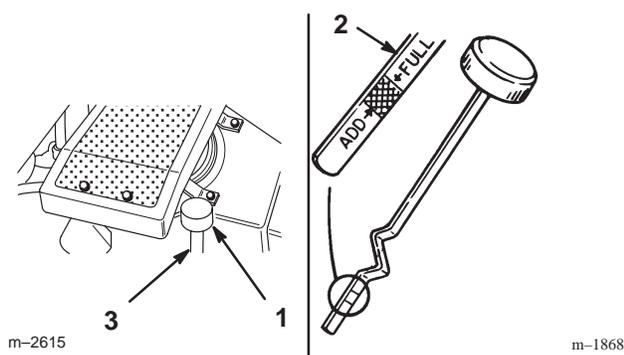

Figure 17
2. Clean around the oil dipstick (Fig. 17) so dirt cannot fall into the filler hole and damage the engine.
3. Unscrew the oil dipstick and wipe the metal end clean (Fig. 17).
4. Slide the oil dipstick fully into the filler tube, do not thread onto tube (Fig. 17). Pull the dipstick out and look at the metal end. If oil level is low, slowly pour only enough oil into the filler tube to raise the level to the “FULL” mark.
5. Slowly pour approximately 80% of the specified amount of oil specified, page 26, into the filler tube (Fig. 17). Now check the oil level; refer to Checking Oil Level, page 27. Slowly add additional oil to bring to “FULL” mark on dipstick.